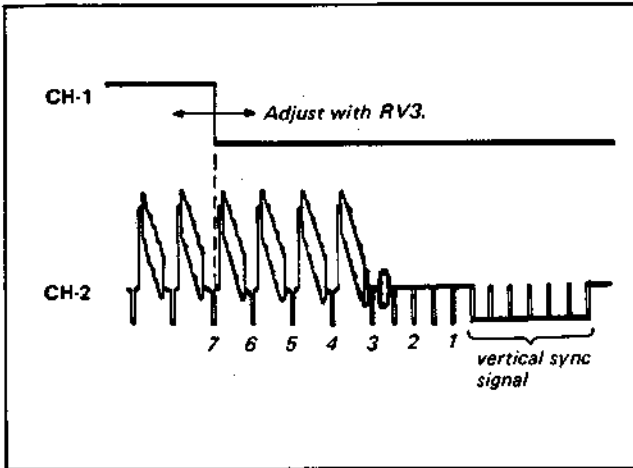

Fig. 4-3-6. Record-servo lock phase adjustment
- (1) Record a video signal.
- (2) Connect the oscilloscope as follows.
- (3) Adjust RV3 on the AS-3 board so that the phases of the falling section of the CH-1 waveform and the vertical sync signal of the CH-2 video signal are $7\text{ H} \pm 2\text{ H}$. (See Fig. 4-3-6.)